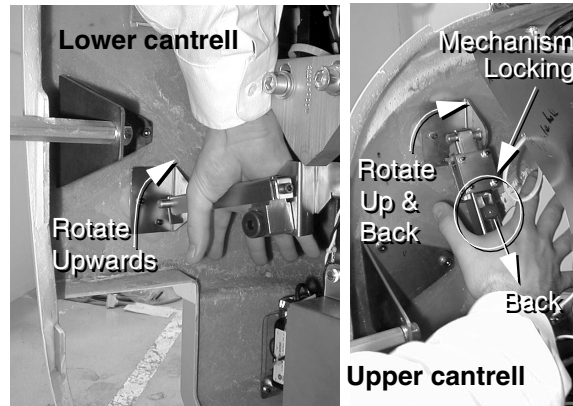

Figure 6 Releasing cover brackets
- 1.) Using steady but firm pressure, lift each of the lower cantrell brackets from their associated retainers. See Figure 6.